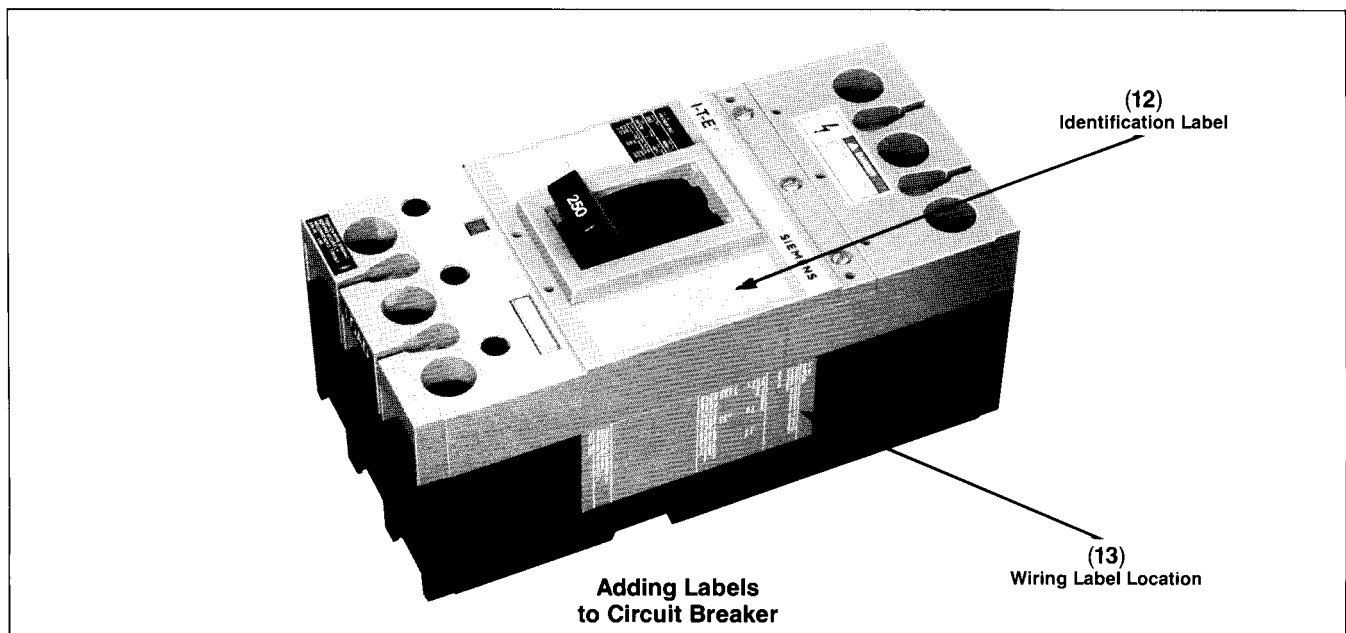

Figure 5
D. Add two labels to circuit breaker. Attach identification label (12) to appropriate space in label on top of circuit breaker on right hand side. Attach accessory information label (13) on side of circuit breaker base (Figure 5).